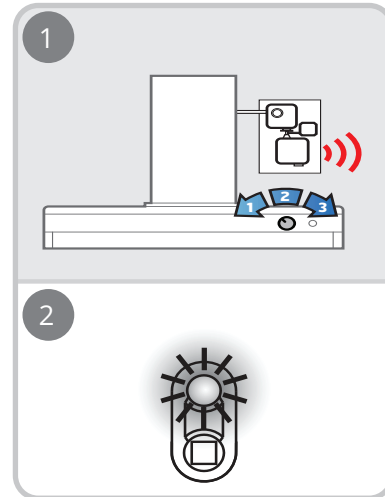

Fig. 8
- Press the transmitters ON button within 12 seconds (see Fig. 8).
- Press the OFF button (bottom part) within 12 seconds (see Fig. 8).